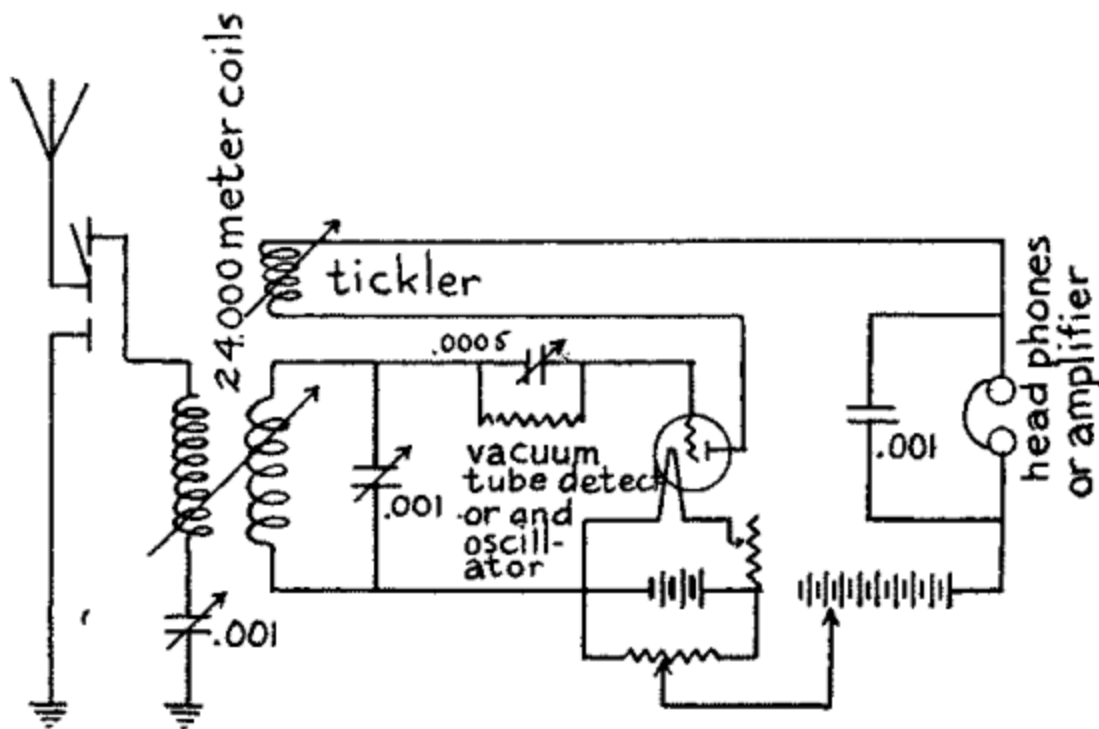

FIG. 60.—Wiring Diagram of Long Wave Antodyne, or Self-Heterodyne Receiver.
The Parts and Connections of an Autodyne, or Self-Heterodyne, Receiving Set.--For this long wave receiving set you will need: (1) one *variocoupler* with the primary coil wound on the stator and the secondary coil and tickler coil wound on the rotor, or you can use three honeycomb or other good compact coils of the longest wave you want to receive, a table of which is given in Chapter XII; (2) two *.001 mfd. variable condensers*; (3) one *.0005 mfd. variable condenser*; (4) one *.5 to 2 megohm grid leak resistance*; (5) one *vacuum tube detector*; (6) one *A battery*; (7) one *rheostat*; (8) one *B battery*; (9) one *potentiometer*; (10) one *.001 mfd. fixed condenser* and (11) one pair of *headphones*. For the two-step amplifier you must, of course, have besides the above parts the amplifier tubes, variable condensers, batteries rheostats, potentiometers and fixed condensers as explained in Chapter IX. The connections for the autodyne, or self-heterodyne, receiving set are shown in *Fig. 60*.